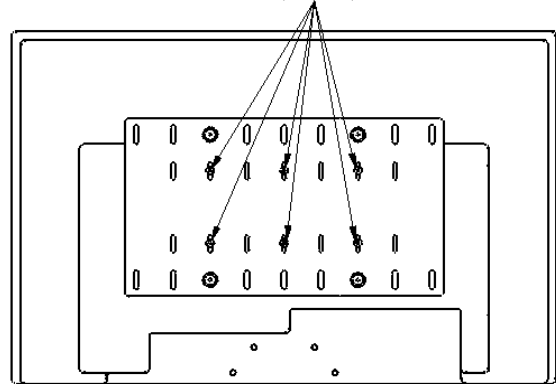

Figure 5. Display with 200mm x 100mm Hole Pattern
2. Attach the MSB-V (10) using the hole-pattern on the back of your display as shown in Figure 5.